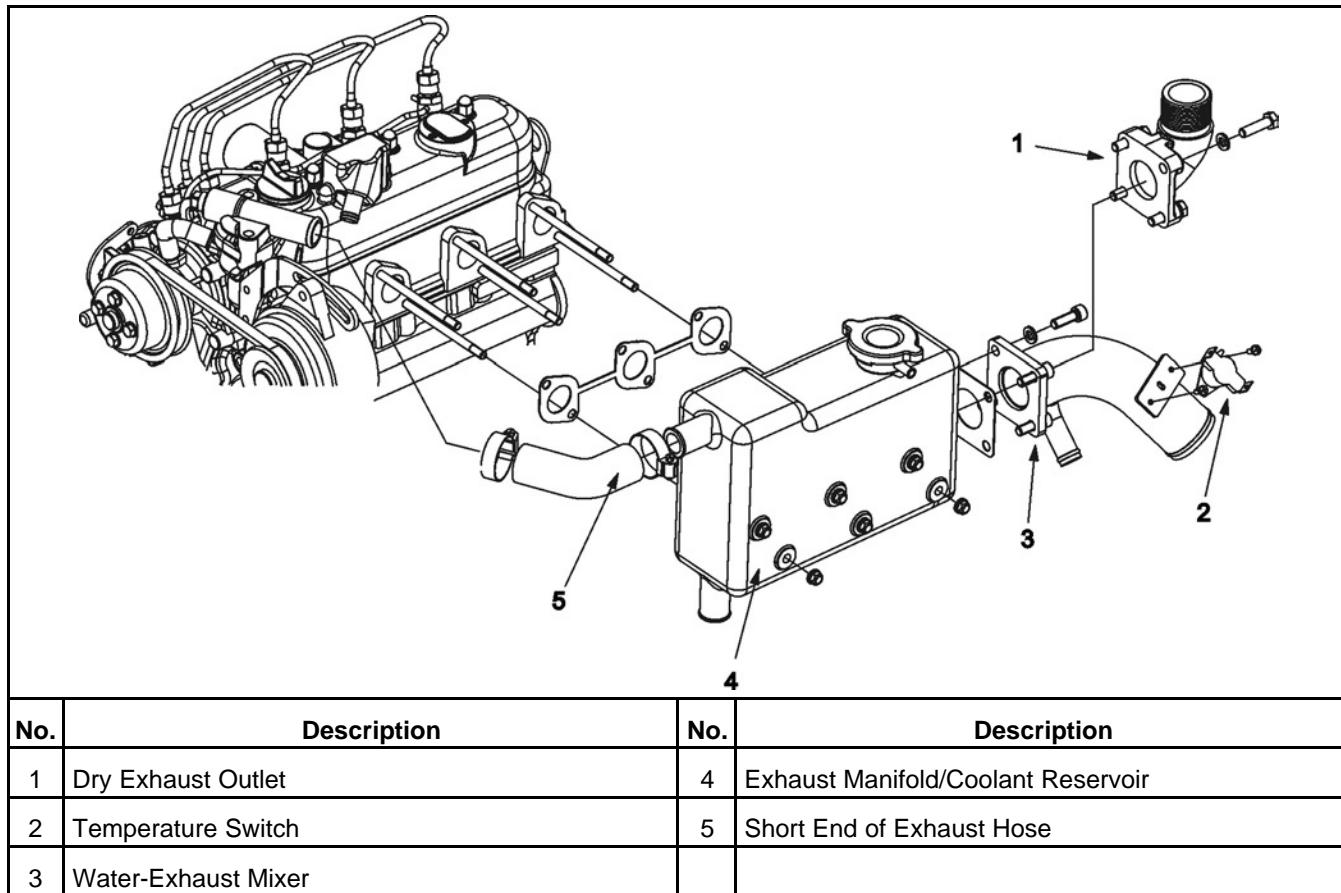

FIGURE 43. MDKBK, MDKBL, MDKBM, MDKBN, MDKBT, MDKBU
MDKBK, MDKBL, MDKBM, MDKBN: (Figure 43) When reassembling, use new manifold and mixer gaskets. Torque the manifold nuts (2 per port) to 9.8-12.0 Nm (7.2-8.8 ft-lb) and the mixer flange bolts (4) to 23.4-28.6 Nm (17.1-20.9 ft-lb).
MDKBT, MDKBU: (Figure 43) When reassembling, use new manifold and mixer gaskets. Torque the manifold nuts (2 per port) and mixer flange bolts to 23.4-28.6 Nm (17.1-20.9 ft-lb).